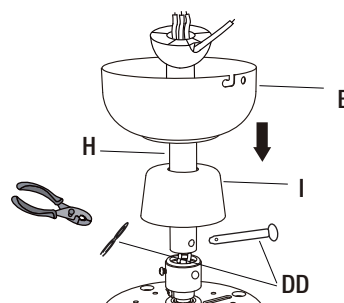

Figure 5
- Remove the split pin and pivot pin (DD) from the loose part bag and set them aside for later restoration.
- Place the downrod assembly (H) through the ceiling canopy (B) and hanger cover (I). (Figure 5).
- Carefully feed the fan wires up through the downrod assembly (H).